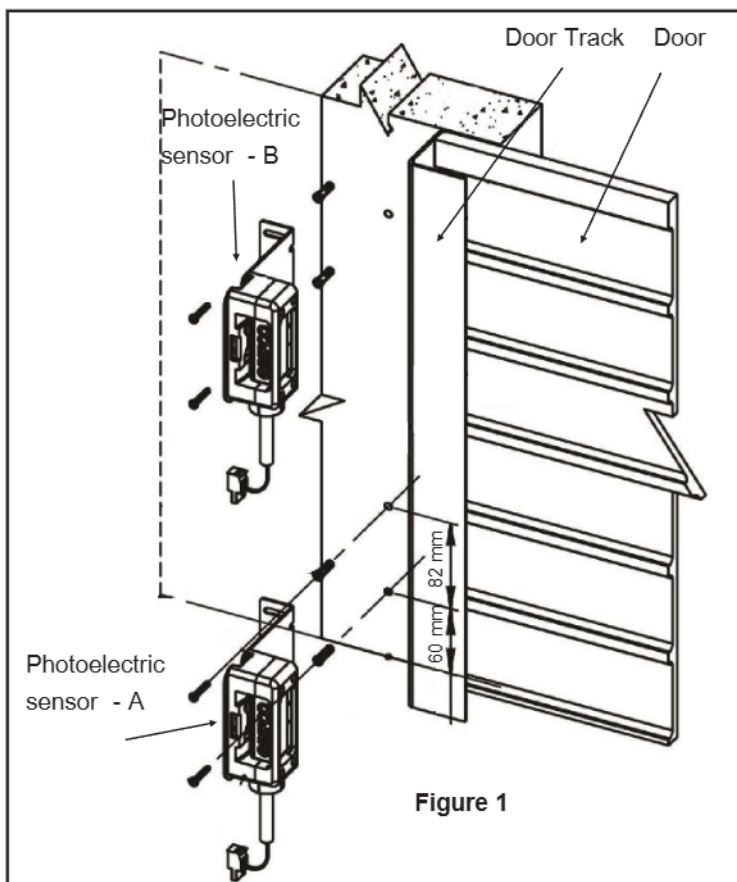

Figure 1
Figure 1 refers to the installation of the photoelectric sensor and figure 2 refers to the installation of the reflector. The photoelectric sensor (A) must be installed to detect an obstacle of 100mm height.